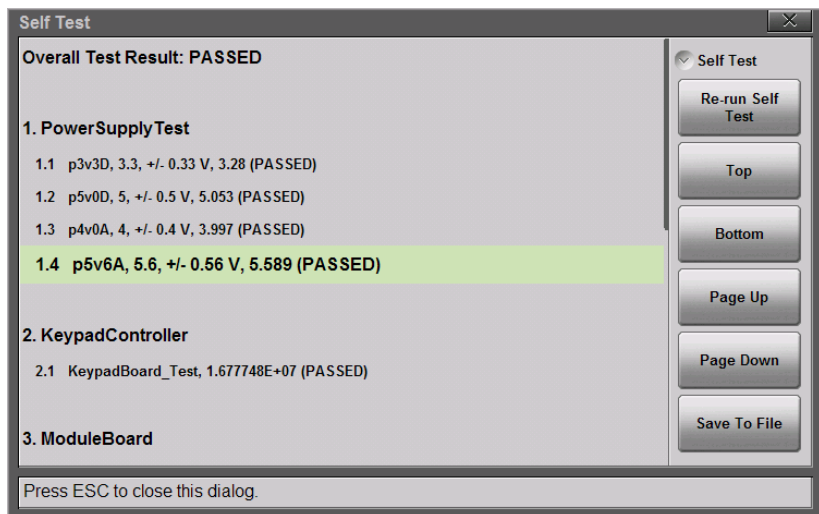

Figure 9-1. Site Master Self Test
1. Press the **System** (8) key.
2. Press the **Diagnostics** submenu, then **Self Test**. The test will start and the results are displayed in the dialog box (see Figure 9-1).